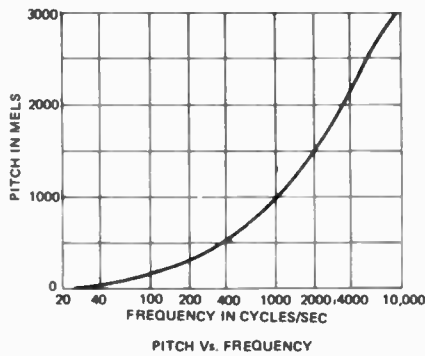

Fig. 3.
**Absolute Pitch** Although perception of pitch is not precisely logarithmic, an exponential characteristic comes fairly close to producing equal subjective pitch change from a linear input. (Fig. 3.)